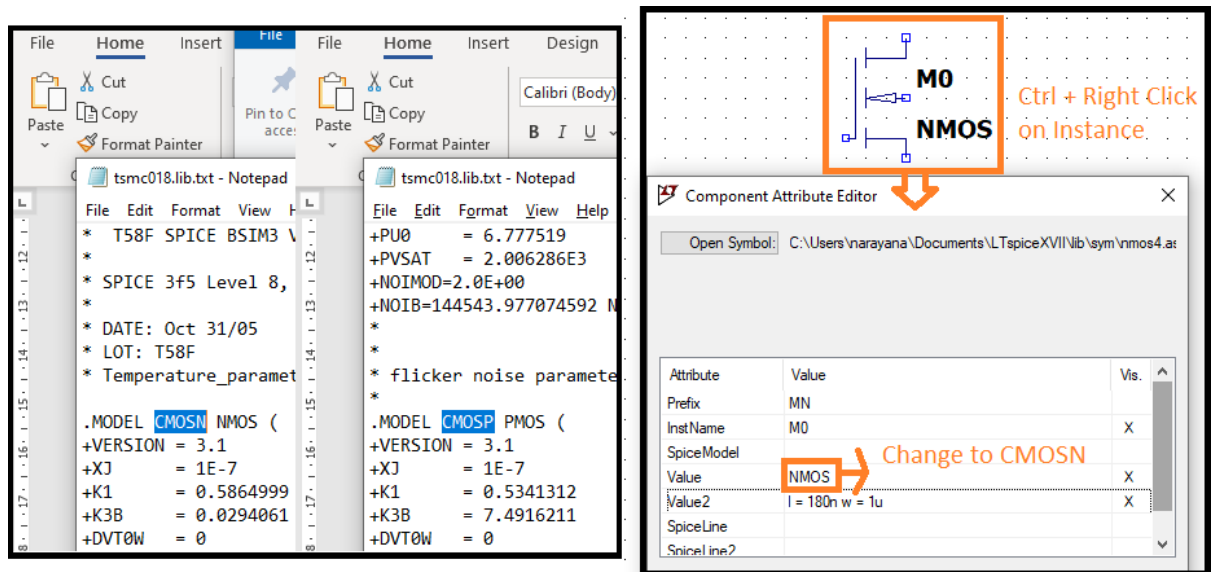

Fig 3. Changing Model name of Transistor
- Open model file and see name of transistor. Here its CMOSN. Change NMOS to CMOSN as shown in Fig 3.
- e) Cross mark (X) will give you an option to visible that parameter along with the instance in the editor